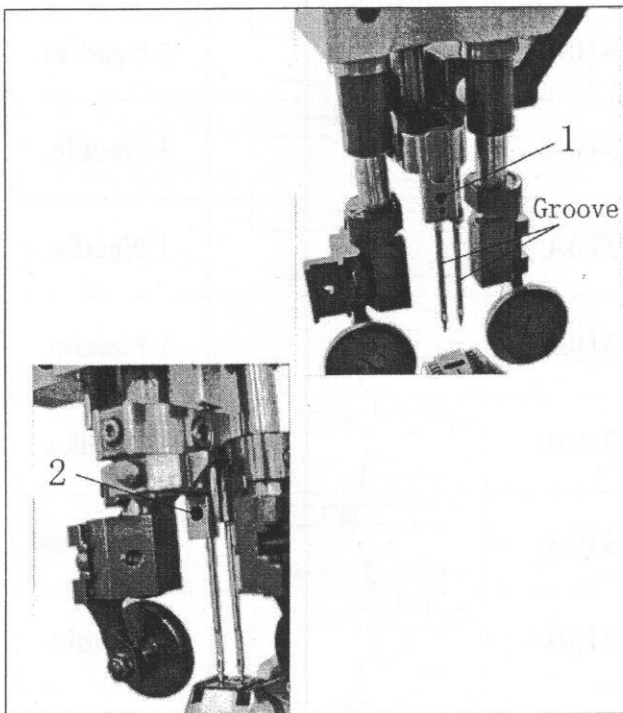

Fig.8
4.1 Needle replacement and adjusting the height of the needle rod (Fig.8)